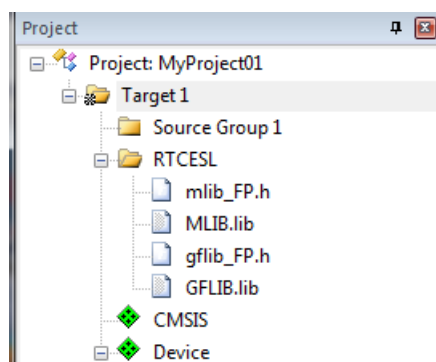

Figure 1-36. Project workspace
8. Now, all necessary files are in the project tree; see Figure 1-36. Click Close.